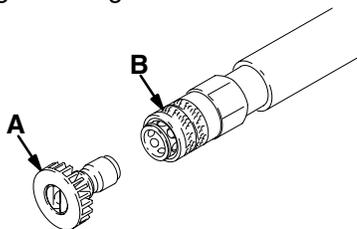

Fig. 3
- Without holding your hand over the spray tip (A), pull back the quick coupler ring (B). Remove the current tip, install a different one, and push back the ring. See Fig. 3.